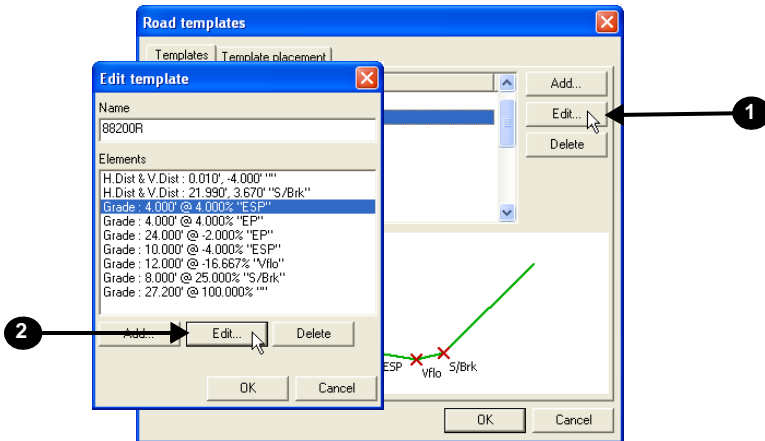

Figure 6-31. Select Template and Element to Edit
2. Select the element to edit and click **Edit** (Figure 6-31).